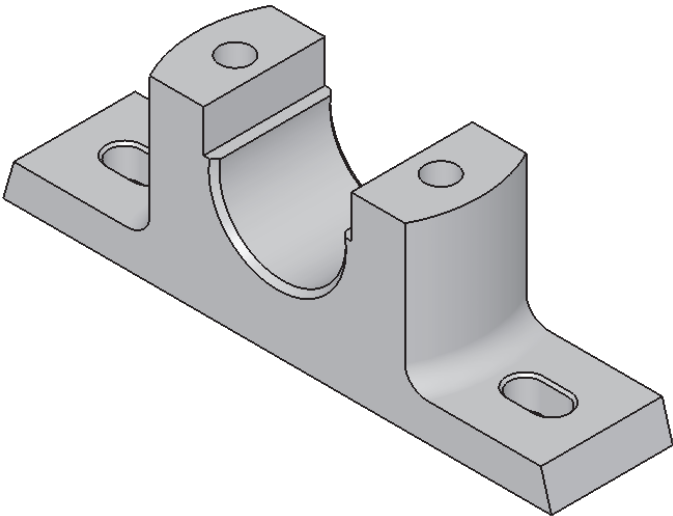
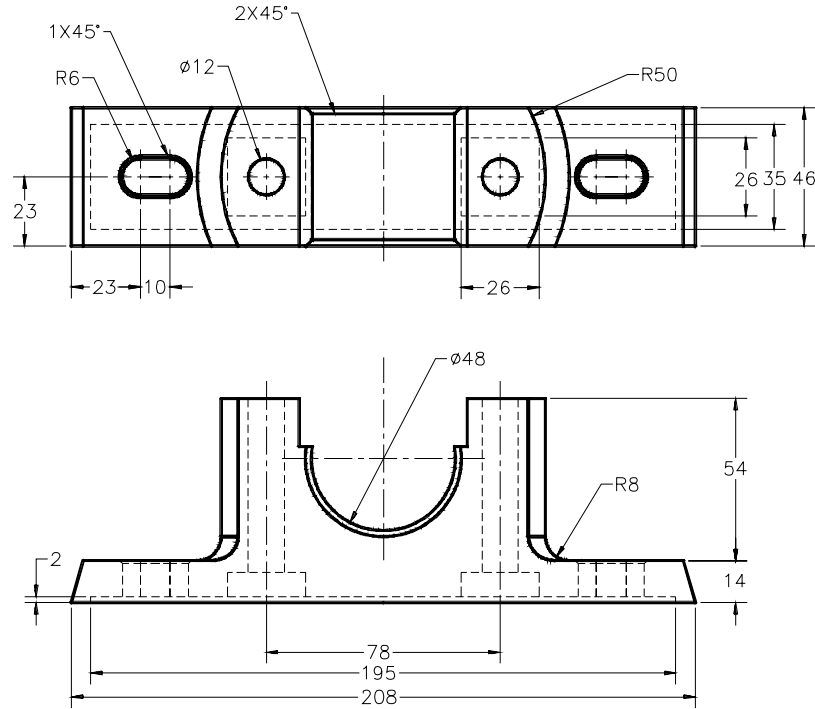

Figure 13-28 Model for Tutorial 1
Figure 13-29 Views and dimensions for Tutorial 1
In this tutorial, you will create the model shown in Figure 13-28. After creating it, you need to generate the front, top, and the isometric views in the **Drafting** workbench. You also need to generate the dimensions in the drawing views. The views and dimensions are shown in Figure 13-29. **(Expected time: 45 min)**
- Create the model, refer to Figure 13-29 for dimensions.